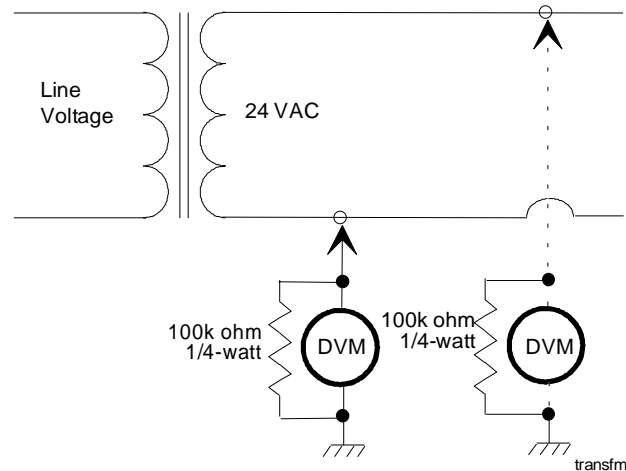

Figure 36: Testing the Transformer
- Measure the voltage of each secondary transformer lead to earth ground with the DVM in parallel with a 100k ohm 1/4-watt resistor (see Figure 36; if using a double banana plug, insert the plug into the DVM).
- Determine the polarity of the transformer's leads by using a DVM referenced to earth ground **without** the 100k ohm resistor (see Figure 36). Connect the transformer's secondary lead with the higher voltage potential to the 24 VAC terminal on the UNT. Connect the transformer's secondary lead with the lower potential to the 24 VAC common terminal on the UNT.